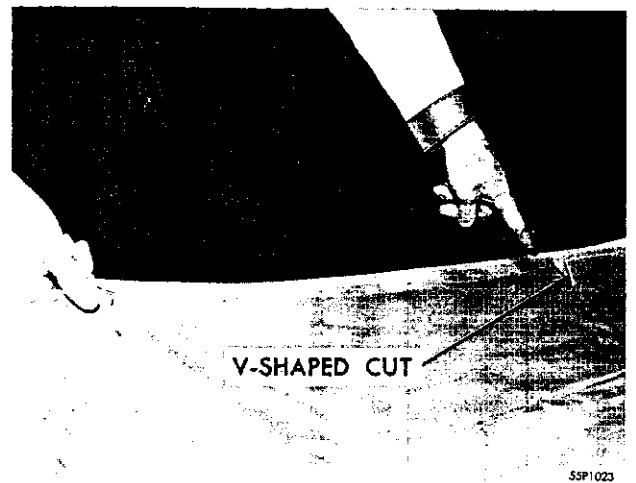
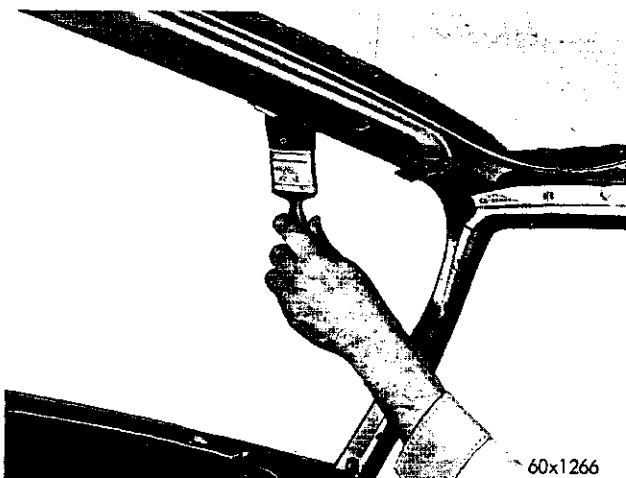

Fig. 62—Marking the Center of Each End of Headlining with V-Shaped Cuts (Chrysler)
Fig. 64—Applying Cement at the Windshield Header Bar (Chrysler)
ends to indicate the center of the material by making small V-shaped cuts, as shown in Figure 62. Use these marks as guides to properly center the headlining.
(3) Starting at the rear of the car, apply cement to the window opening (Fig. 62). Install the rear bow tension spring.
(4) Install the bows in the correct location, since bows are of different length and must be correctly positioned to prevent the headlining from wrinkling. This procedure assures correct installation of the bows.
(5) Install the remaining bows, making sure to stretch the headlining evenly so that approximately the same amount of material hangs down on each side.
(6) Apply cement to the windshield header bar (Fig. 64). Wait until it becomes tacky. Stretch the